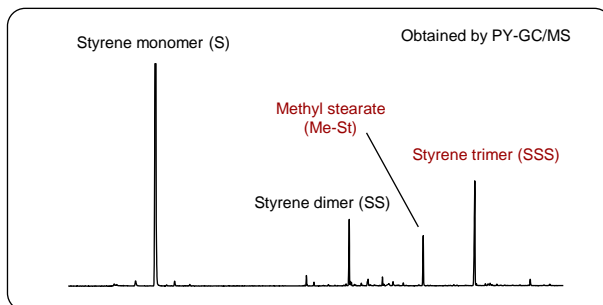

Fig. 1 Reproducibility of pyrogram
- Reproducibility of polystyrene (PS) pyrograms is guaranteed (Fig. 1). The coefficient of variation (RSD) of peak area ratios of styrene trimer (SSS) and methyl stearate (Me-St) is guaranteed to be less than 2 % with GC/MS.